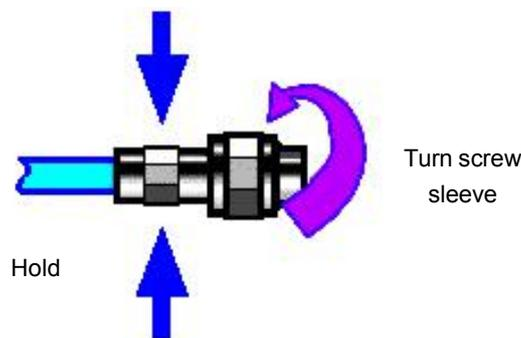

Figure 2.5 Connection method
Step 2. As shown in Figure 2.5, move the two connectors leveled together so that they can be smoothly engaged. Rotate the screw sleeve of the connector (note, not the rotating connector itself) until it is tightened, and there can be no relative rotational movement between the connectors during the connection.